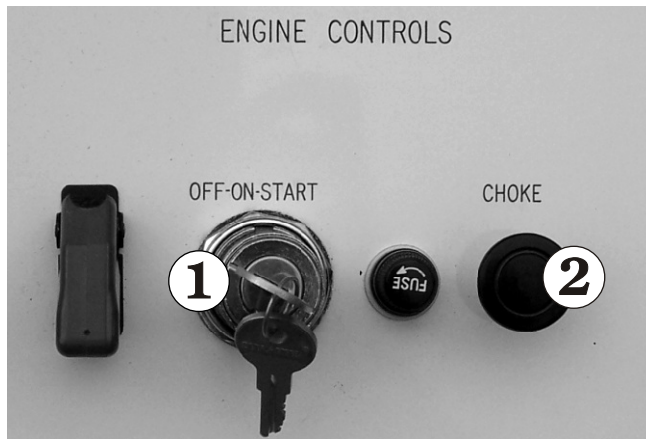

Figure 9.8 - Engine Controls
2. Start the engine using the engine controls on the subframe/column (see Figure 9.8).